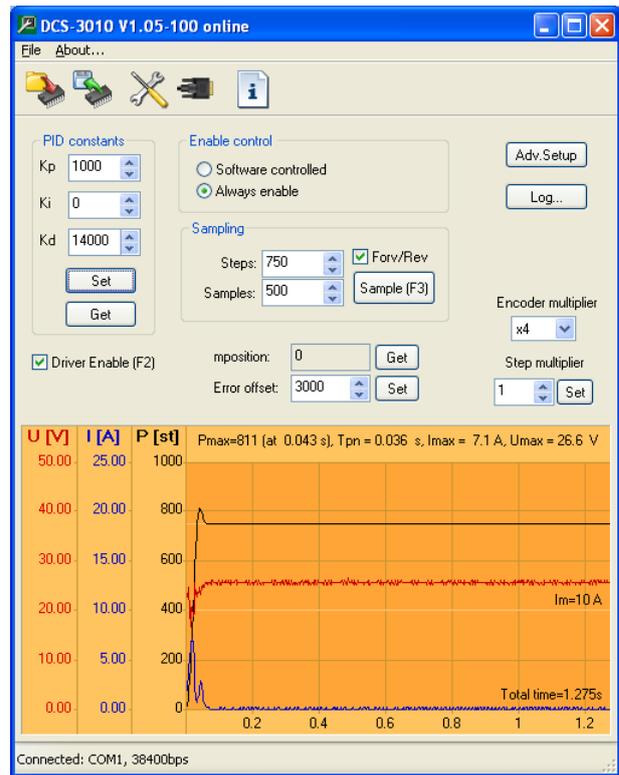

Figure 20
**STEP 2:** Increase constant  $K_d$  until the system response becomes more stable as is shown in Figure 20. The constant  $K_d$  may be significantly larger than the constant  $K_p$ .